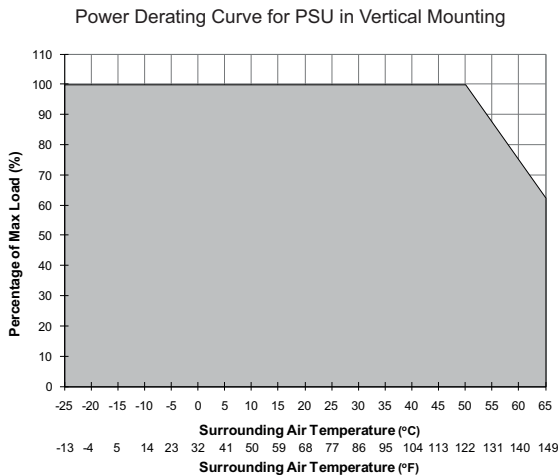

Figure 6
5.4. Thermal behavior (Fig. 6)
Ambient operating temperature	-25°C to +65°C [-13°F to 149°F] (Refer to Fig. 6)